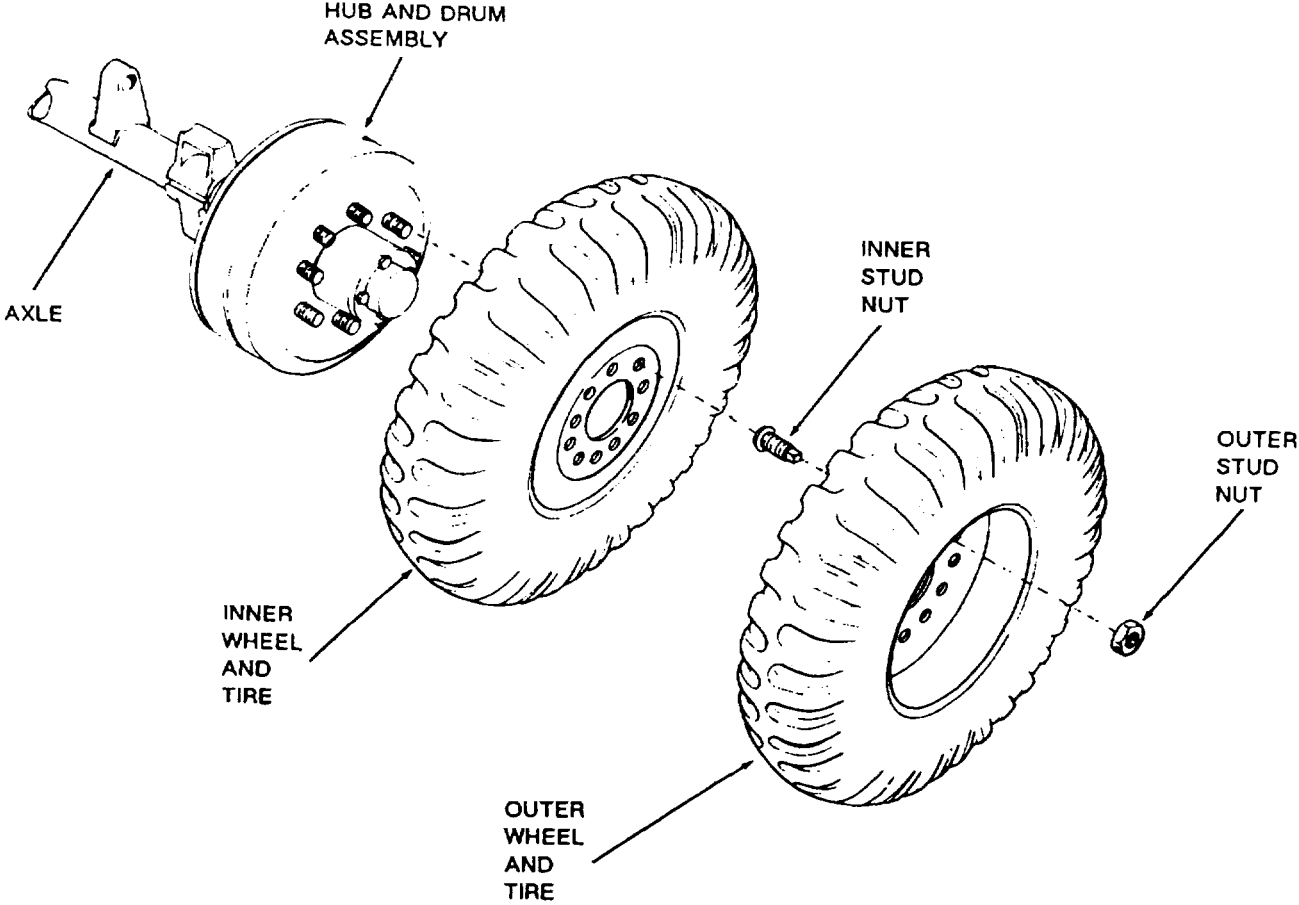

Figure 4-58. Replacement of Tires and Wheels.
a. Tire and Wheel Replacement, Fig. 4-58.
(1) Removal. Block any of the tires that are not being removed. Jack up axle until tire is clear of ground. Support axle with jack stand or blocking. Remove outer stud nuts. Remove tire and wheel assembly. If inner tire must be removed, remove the ten inner stud nuts, and remove inner tire and wheel assembly.